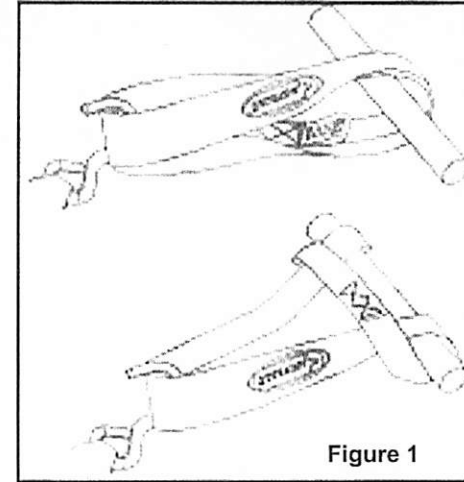

Figure 1
28. The webbing loop may be passed around a solid frame member keeping it double and then connect the "J" hook to the webbing loop, as shown in Figure 1.
38. Again, if you experience any difficulty in attaching a "J" hook to a solid frame member, the Q'Strait webbing loop may be used for this purpose, see figure 1.